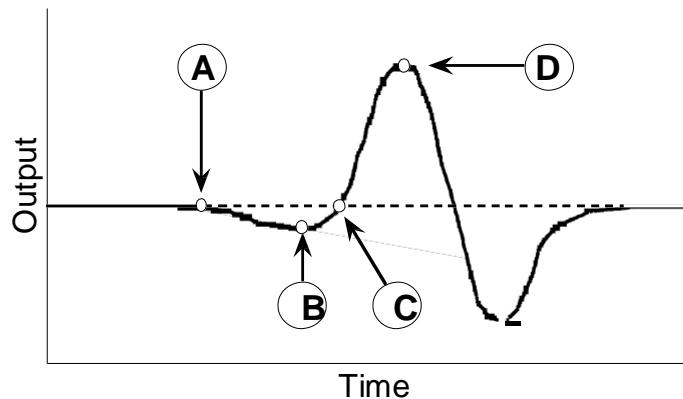

Figure 1 – Points of interest observed within the received element signal.
GDS Beat primarily uses three common methods to estimate the shear wave travel times from bender element test data: (1) observation of points of interest within the received element signal (see Figure 1); (2) cross-correlation of the source and received signals; (3) cross-power spectrums of the source and received signals.
Observation of the received signal is designed to semi-automate the travel time estimation process often performed subjectively by the user. An algorithm within the tool attempts to identify the times at which Point A, B, C and D occur, as shown in Figure 1. This then allows the user to calculate travel times using any observational method of their choice, such as 'start-to-start' or 'peak-to-peak'.